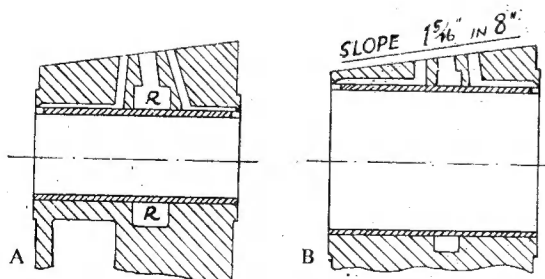

Fig. 49. Steam passages ("A") for H.P. cylinder; ("B") for L.P. cylinder
Now, in Fig. 49 (A) and (B), the inlet and exhaust passages are shown. A liner is fitted to form the cylinder-barrel, and the ports are milled or drilled and chipped in the usual way. From the bottom of these, steam-passages are shown machined above the liner (before it is fitted, of course!); this could be done with a milling-cutter. On the other hand, the steam-passages may be drilled in the usual manner, which is what Stan Green has done.